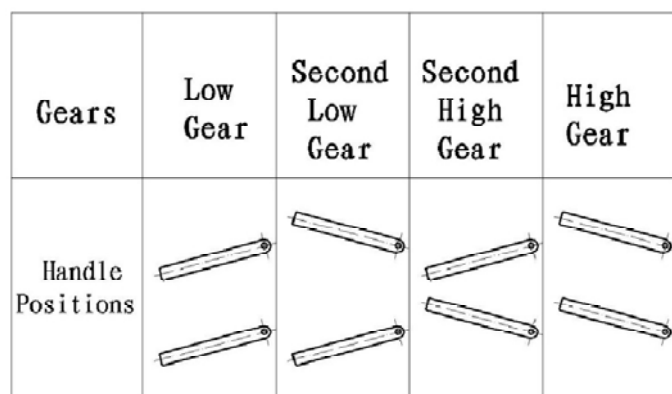

Fig 1
4.1.3.We'll know the handle of speed (see fig1)